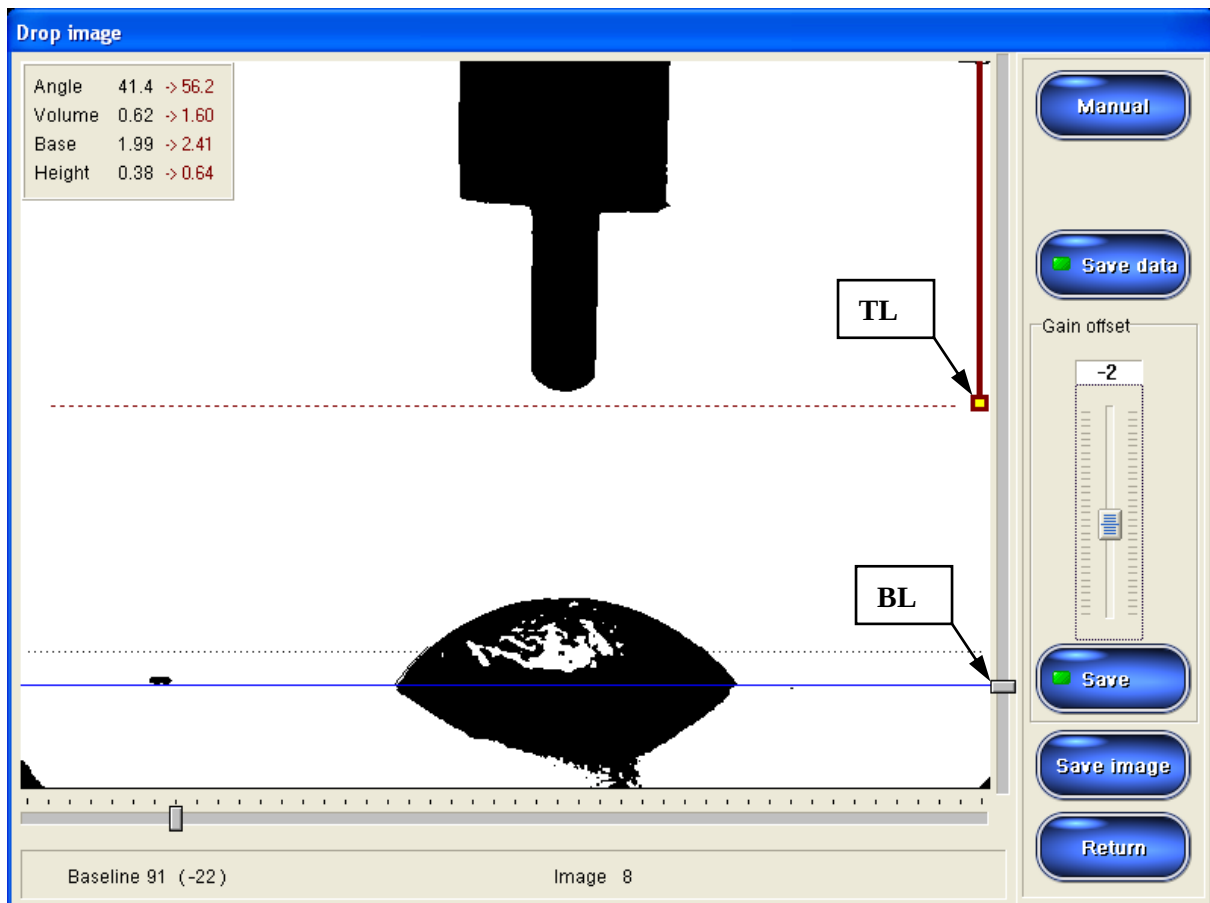

Fig. 9.9 Review of a captured image
Double-click on a data point in the diagram or a line in the Results Window to bring up the corresponding image as shown in Figure 9.9.
When the automatic base line is set incorrectly, pick up the base line handle (BL) in Figure 9.9 with the mouse and slide it to the correct position. This will activate the button **Save data** with its light indicator. Right-click on the button to assign a new mode. If the button already has the appropriate mode (e.g. “All images”), simply click the button to move the base line for selected images. These images will then be recalculated with the new base line setting.